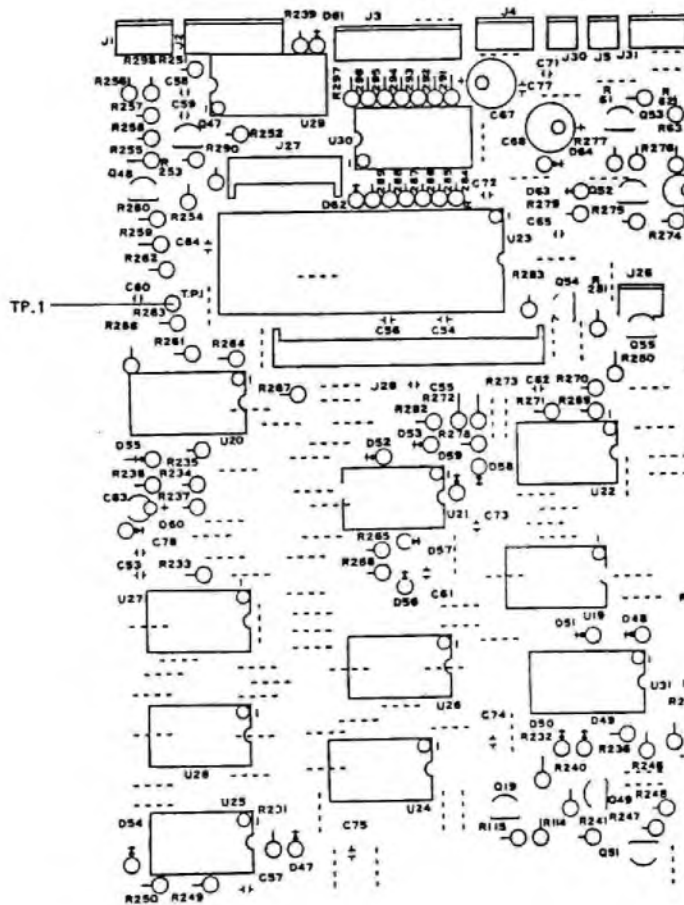

Fig. 5.10
- 1) Monitor the System Control PCB test point 1 (Fig. 5.10) signal with an oscilloscope (square wave footage roller output).